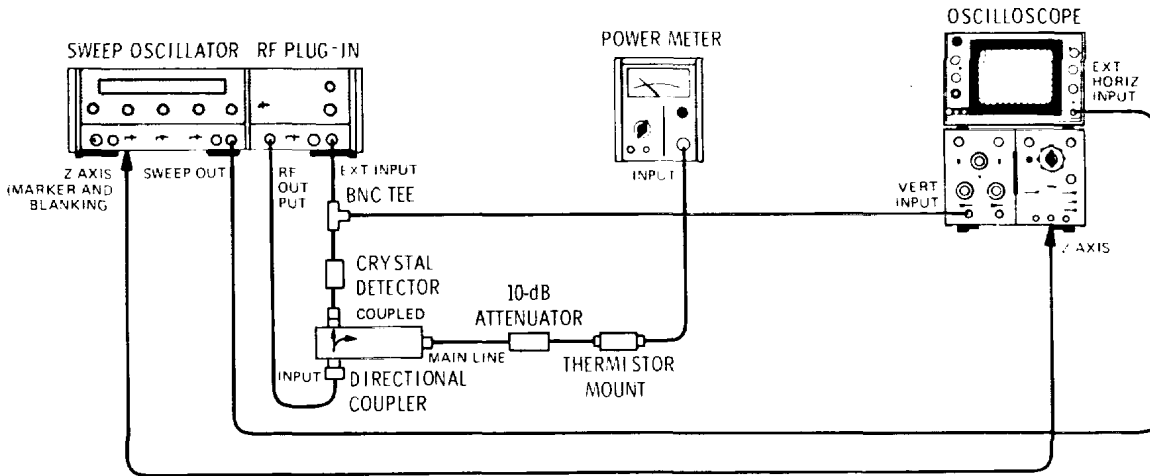

Figure 4-5. Crystal Detector Leveling Test Setup
The following list includes equipment used in Figures 4-5 and 4-6 test setups.
a. Connect equipment as shown in Figure 4-5. Set detector polarity switch to either negative or positive to match crystal detector output. The polarity switch is located on top of the A2 ALC board just inside 86260A. To gain access to the switch, slide RF Plug-in out set switch then slide back in place.